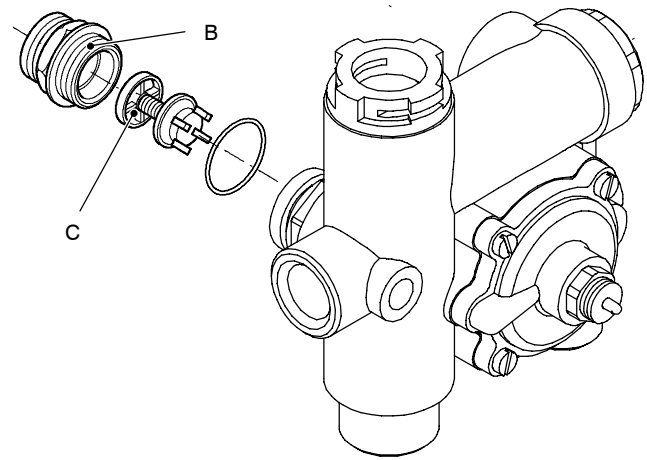

Fig. 2
- 4 Unscrew the connector *B* and remove the by-pass valve *C* (Fig. 2).
- 5 Reassemble the by-pass valve as illustrated in Fig. 2 reversing the order of removal.